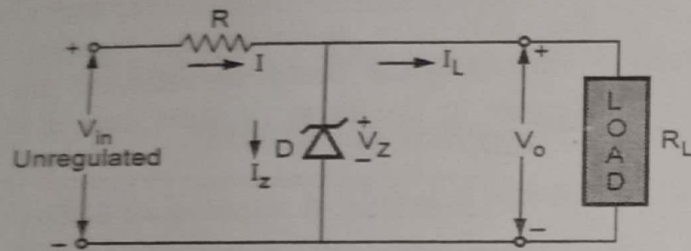

Fig. Q.5.1 Zener diode as a shunt regulator
Ans. : • A shunt voltage regulator using zener diode is shown in the Fig. Q.5.1.
- From the Fig. Q.5.1 we can write,